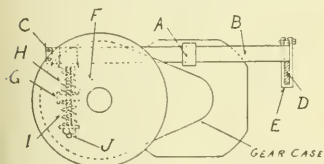

FIG. 1. CRADLE SUSPENSION.
This type of suspension is shown by Fig. 1. On either end of the motor is
This method of suspension can be applied to the same motor as Fig. 1. Referring to this illustration a straight bar longer than one side of the U bar is placed through each of the two lugs (A), extending well beyond on both sides. The ends of each bar rest on the frame of the motor truck with spiral springs to cushion the vibrations. The back side of the motor is carried on the axle, but no connec-
We now come to consider the modern methods of suspension, of which this is one. It is really a modification of the cradle suspension. Referring to Fig. 1, the straps (A) have been discarded, as